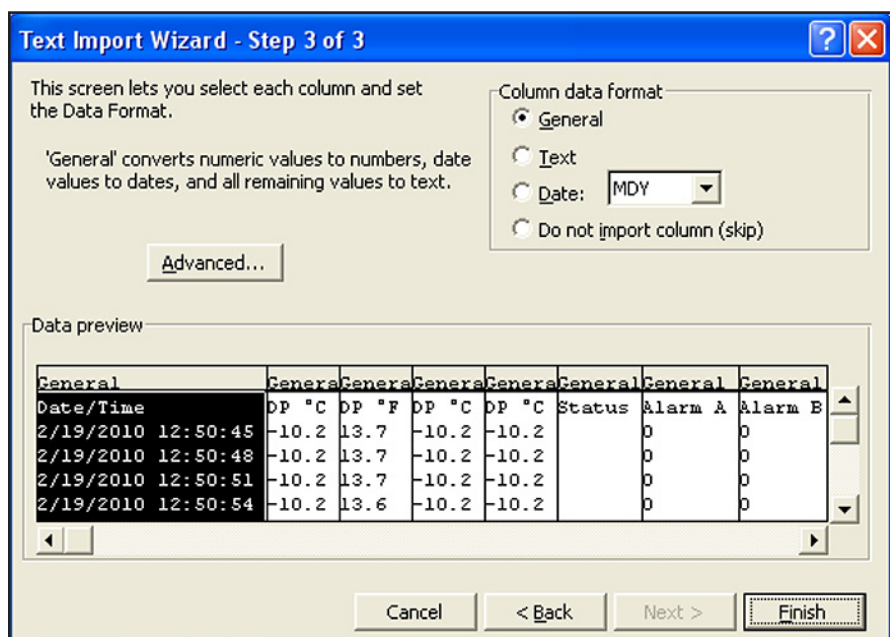

Figure 61: Microsoft Excel Import Wizard - Step 3
3. Select the desired data delimiters, and click on **Next >**. A window similar to the one in *Figure 61* below will open.
4. Select each column and set the desired data format for that column (see *Figure 61* below).